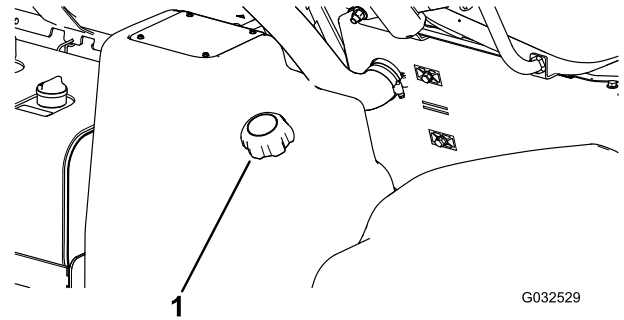

Figure 15
2. Clean the area around the fuel-tank cap (Figure 15).